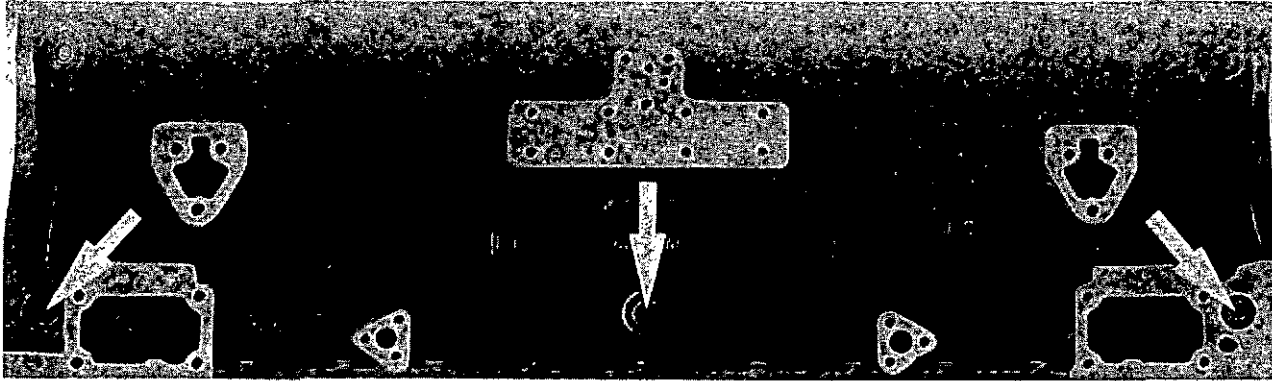

Fig. 6 Main bearing lateral bolts, both sides of crankcase
26. Invert engine. Slacken and remove main bearing lateral setbolts on both sides of crankcase (fig. 6).